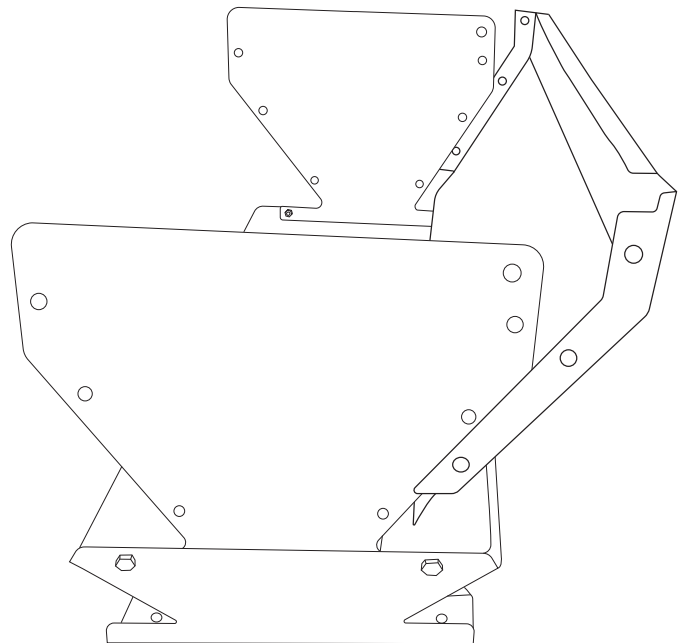

Figure 2
2. Install **Back Panel** (D) using 6 **Bolts** (H1) and 6 **Nuts** (H2). Tighten to Secure. (Figure 2)